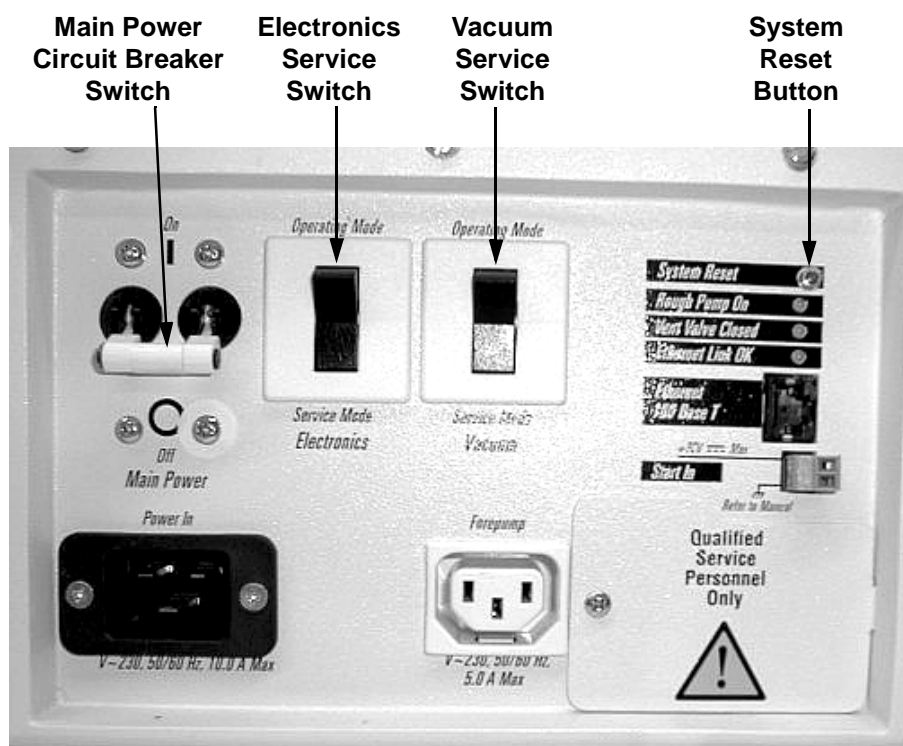

Figure 6-1. Power panel, showing the main power circuit breaker switch, electronics service switch, vacuum switch, and system reset button
If you need to turn off the mass spectrometer in an emergency, place the main power circuit breaker switch, located on the power panel on the right side panel of the mass spectrometer (see Figure 6-1), in the Off (O) position. This turns off all power to the mass spectrometer, including the vacuum pumps. Although removing power abruptly will not harm any component within the system, this is not the recommended shutdown procedure to follow. Refer to the **Shutting Down the System Completely** topic, on page 6-4, for the recommended procedure.
3. Place the electronics service switch, located on the power panel (see Figure 6-1 on page 6-2), in the Service Mode position.
4. Place the vacuum service switch, located on the power panel (see Figure 6-1 on page 6-2), in the Service Mode position.
5. Place the main power circuit breaker switch, located on the power panel (Figure 6-1) in the Off (O) position. When you place the main power circuit breaker switch in the Off (O) position, the following occurs:
If communication between the mass spectrometer and data system computer is lost, it may be necessary to reset the mass spectrometer using the Reset button on the power panel. When you press the System Reset button, an interrupt in the embedded computer is created. This causes the embedded computer to restart in a known (default) state. See Figure 6-1 on page 6-2 for the location of the System Reset button.